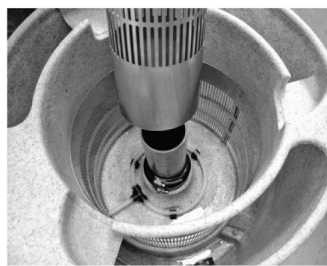

Fig. 8
2. Remove the stainless steel perforated pipe by pulling gently (see Fig.8).